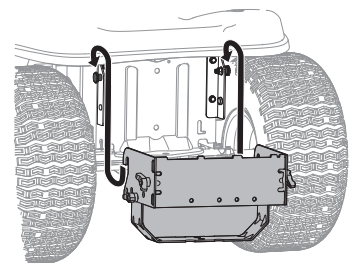

Figure 5
1. Place the hooked ends of the mounting assembly over the shoulder bolts on the mounting brackets previously installed on the tractor and line up the hitch support bracket center hole with the hole on the tractor's hitch. See Figure 5.